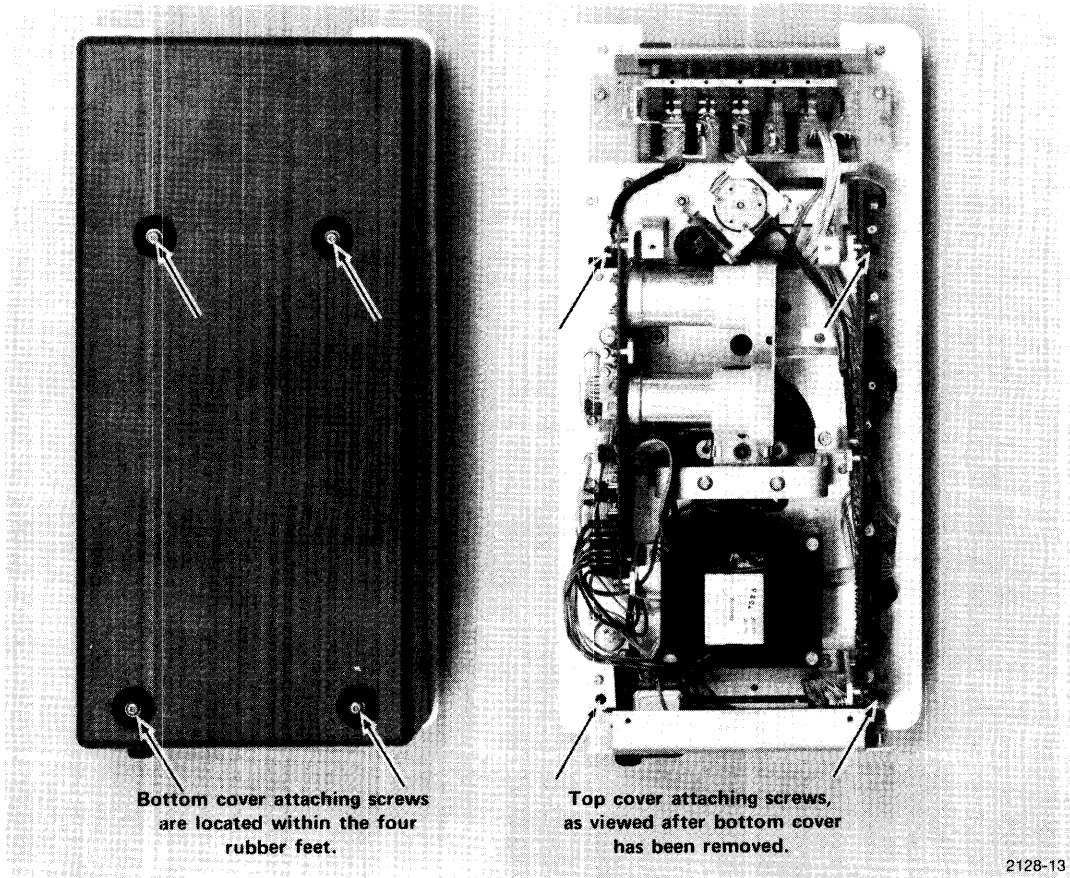

Fig. 3-2. Cover attaching screws.
1. Turn the 4924 over, resting it on the unit's top. Remove the four screws that attach both the unit's feet and the bottom cover (Fig. 3-2) then remove the bottom cover. This is the only procedure necessary prior to changing line voltage selection. To complete the operation, place the unit upright on a work area, then proceed to selecting Line Voltages.
2. If the top cover is to be removed, leave the unit on its top. Remove the four black internal screws that attach the top cover (Fig. 3-2), then lift the chassis out of the top cover and place it upright on a work area.